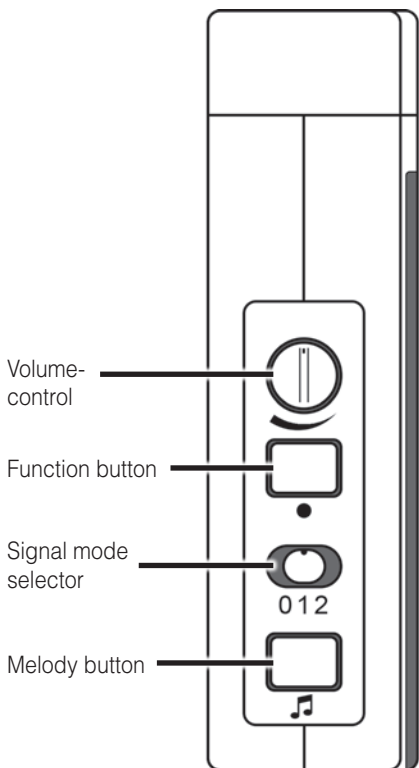

Figure 2: Controls, left side
Using the signal mode slide switch (in fig. 2 “0 1 2”) you can select the signal mode. Kindly keep in mind that the event icons are always displayed by coloured LEDs.
- a) Keep the function button »●« (fig. 2) pressed for some time. The event icons start to light up in sequence. Let go of the key as soon as you see the desired icon.